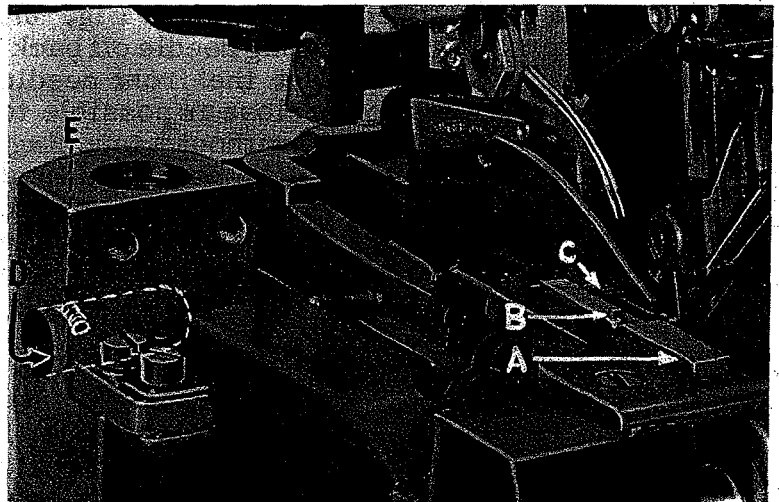

Fig. 11
Assemble and set the differential feed dog (A, Fig. 11) and main feed dog (B) so that top surfaces of the feeding surfaces all lay in the same plane. This can be checked by sighting across feeding surface with a straight edge. Feed surfaces should now be leveled with the throat plate surfaces by rotating feed tilting adjusting pin (D). This pin raises or lowers the back end of both feed bars at the same time.